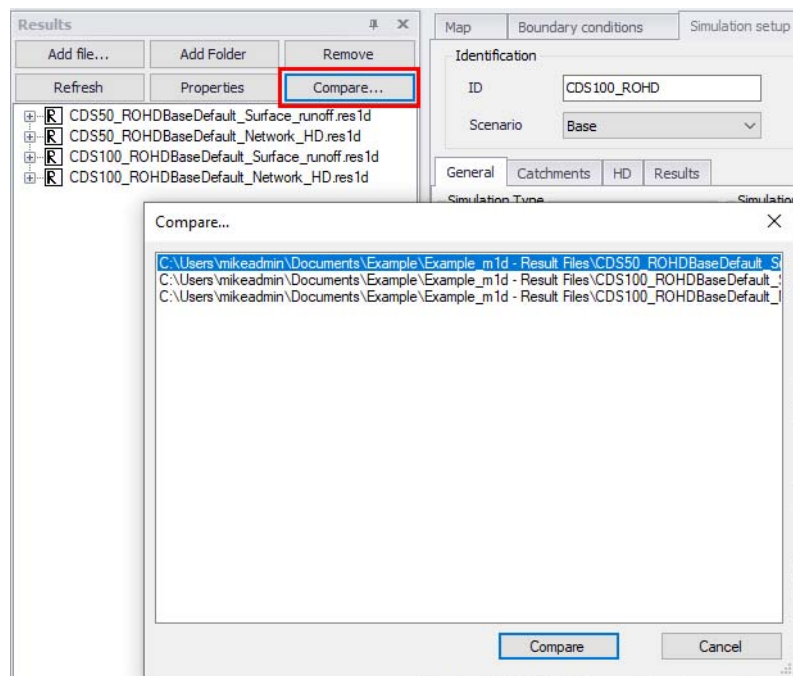

Figure 20.97 Loading result files for comparison of results
- Select one of the result file layers (i.e. File A) on the Results manager, and click on the ‘Compare...’ button at the top of the panel (Figure 20.97). This will launch a dialog listing other loaded result file layers available for comparison with the currently-selected layer.